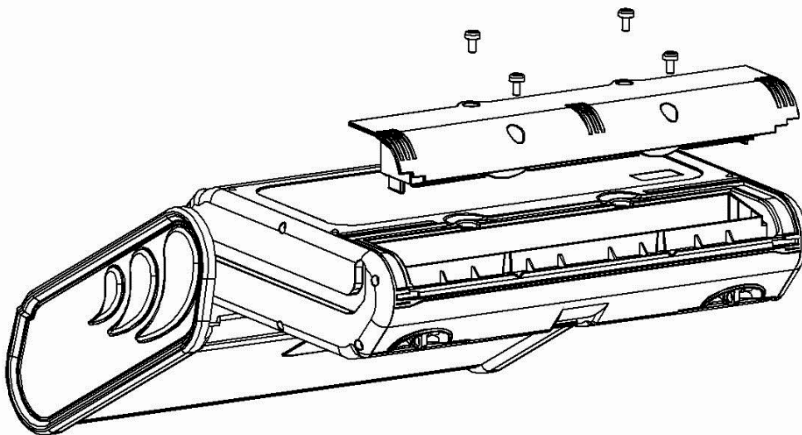

Fig. 7.1. Replacing the battery pack
- remove the four screws of the battery compartment (in the lower part of the casing, **Fig. 7.1**),